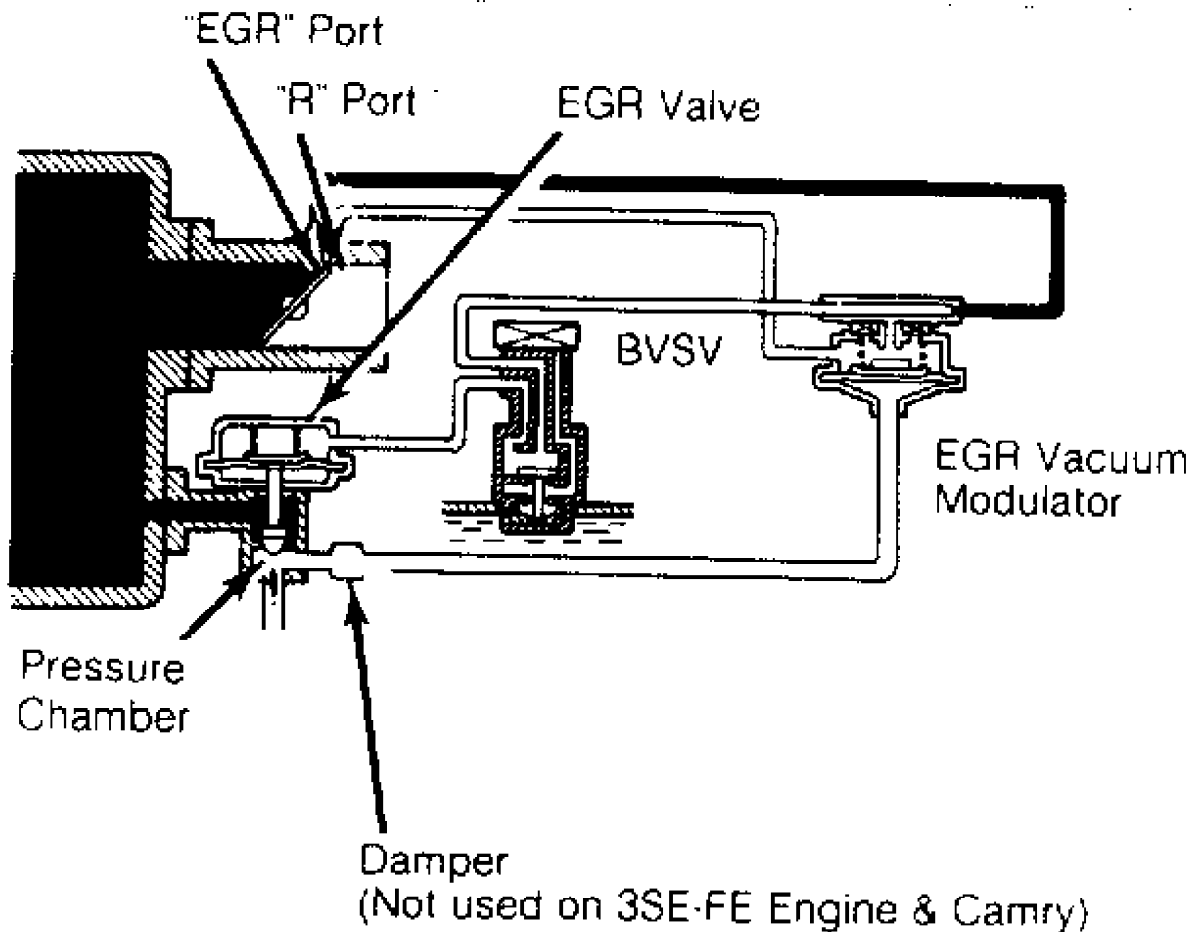

Fig. 1: Camry & Celica (2WD) EGR System
- 3) The BSV, TVSV, VSV and EGR modulator can be checked with engine coolant below minimum temperature and specified engine RPM in accordance with application. See EGR SPECIFICATIONS table. Different valves are used depending on model. See Figs. 1 through 16.
- 7) Disconnect hose from the "R" port of EGR vacuum modulator on all models except the Celica 4WD, Tercel Wagon, Pickup (turbo) and Supra (turbo) models. See Figs. 1 through 16.